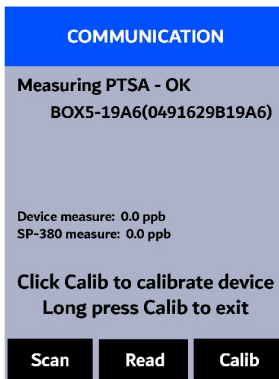

Figure 20.
11. Press **Read** (**>**) to see PTSA measurement from the SP-380 along with the sensor measurement (Figure 20).